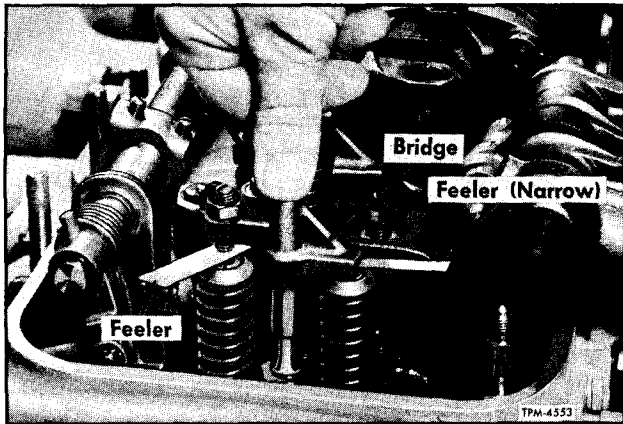

Figure 2—Valve Bridge Adjustment Check (71 Series)
9. Place a 0.0015" feeler under each end of the bridge (fig. 2).